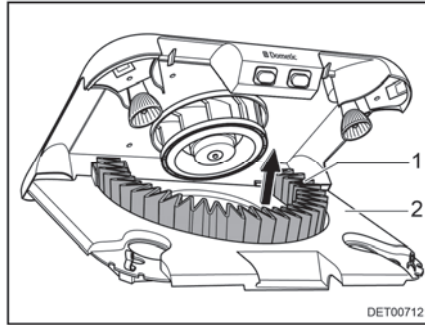

Fig. 148 Change the active carbon filter
- Remove the active carbon filter (Fig. 148,1) of the holder in upward direction.
- Swivel the filter holder (Fig. 148,2) upwards until it engages.